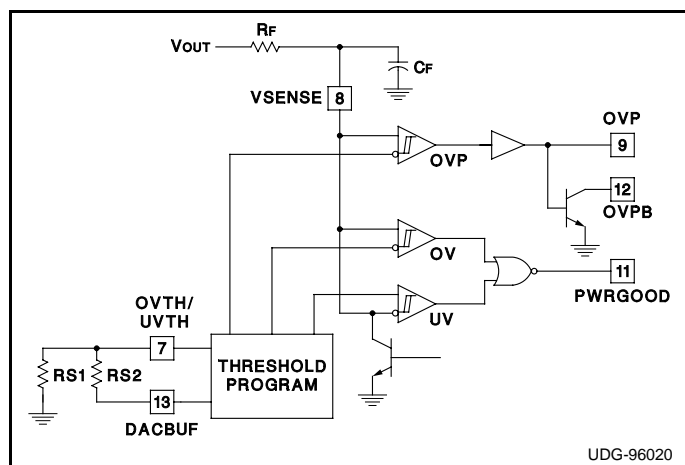

Figure 1. Setting the OV/UV/OVP Threshold Percentages
Note 3: "Code 0" means pins D0 - D4 are all low; "Code 15" means they are all floating or high (See Table 1). "Ratio" is the divider ratio of the resistor string between DACBUF and OV_{VTH}/UV_{VTH} (See Figure 1).
The Overvoltage (OV), Undervoltage (UV) and Overvoltage Protection Voltage (OVP) threshold detection voltages are programmed as a percentage about the nominal DAC output voltage, DACOUT. Figure 1 illus-